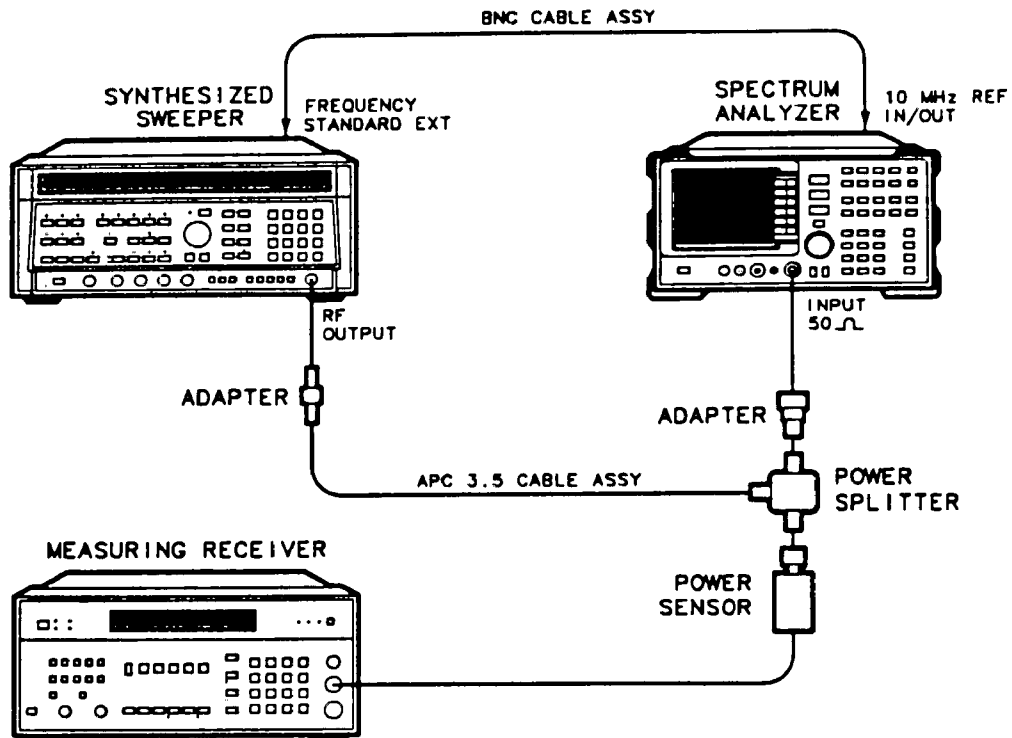

Figure 3-11. Image, Multiple, and Out-of-Band Responses Test Setup
1. Connect the equipment as shown in Figure 3-11, but do not connect the power sensor to the power splitter.